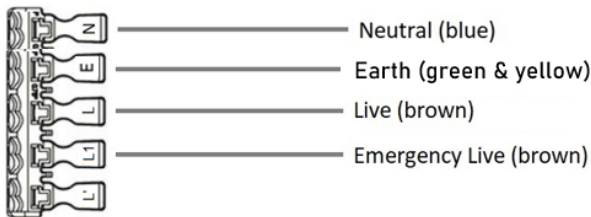

Fig. 3
- Connect the luminaire to the mains supply ensuring the correct polarity is observed (see Fig. 3): L – Live (brown), E – Earth (green/yellow), N – Neutral (blue) and L1 – Emergency Live (brown). The earth terminal is non-functional and only provided for convenience. Two cables can be inserted into the push-fit terminal block in order to achieve loop-in/loop-out